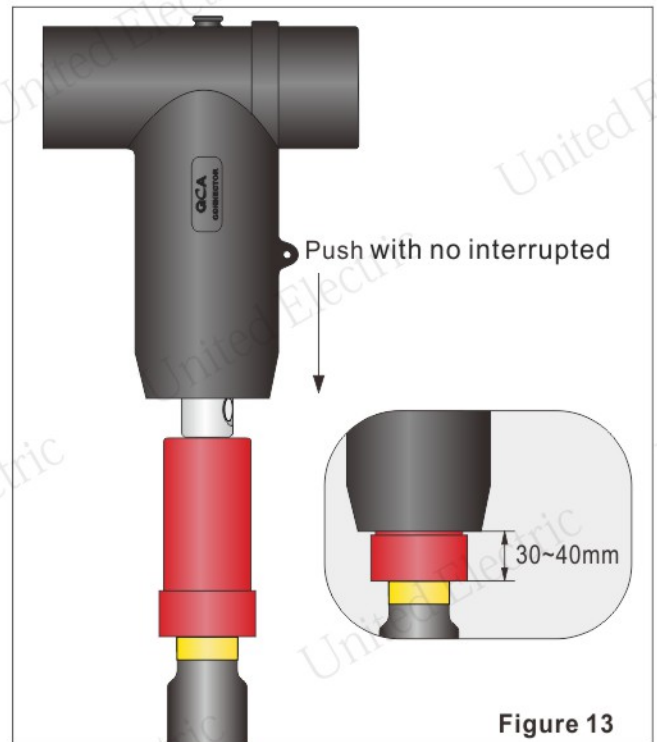

Figure 13
- Be noticed that the stress cone and PVC marker should not have any moving. The down end of the stress cone should be exposed in the range of 30-40mm. (Figure 13)